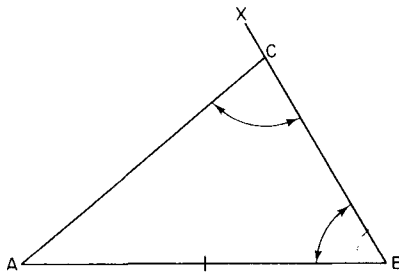

Fig. 3.12
4. To construct a triangle given two angles and the length of one side. In Fig. 3.12 we are given the angles at B and C and the length of the side AB.